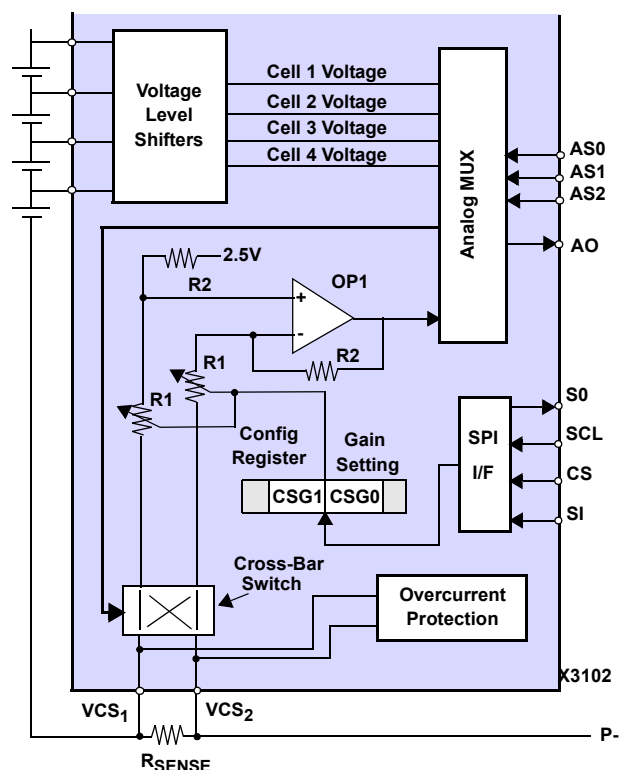

FIGURE 15. MONITOR CIRCUIT
The X3102 can be used to externally monitor individual battery cell voltages, and battery current. Each quantity can be monitored at the analog output pin (AO), and is selected using the analog select (AS0–AS2) pins (Table 25). Also, see Figure 15.
Since the value of the sense resistor (R_{SENSE}) is small (typically in the order of tens of mΩ), and since the resolution of various A/D converters may vary, the voltage across R_{SENSE} (V_{CS1} and V_{CS2}) is amplified internally with a gain of between 10 and 160, and output to pin AO (Figure 15).